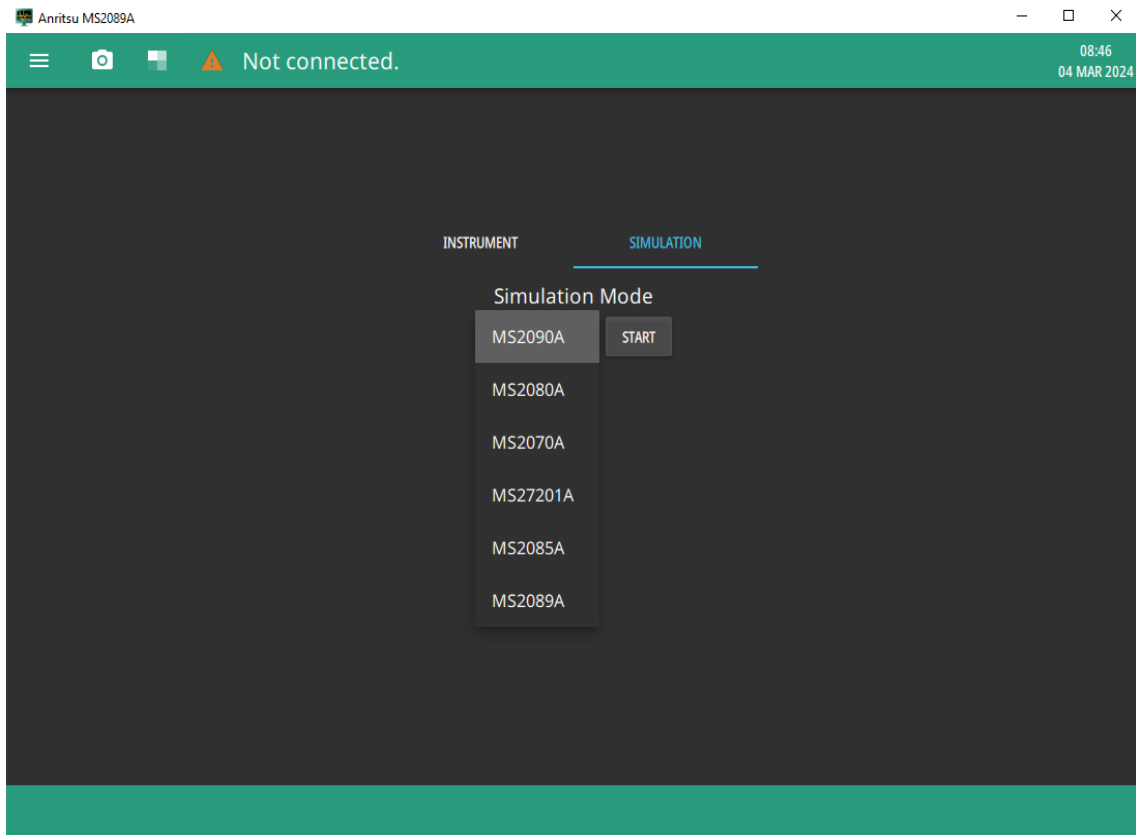

Figure C-3. Connecting to Simulation Mode
4. Alternatively, to turn on the simulation mode click SIMULATION tab. See Figure C-3.